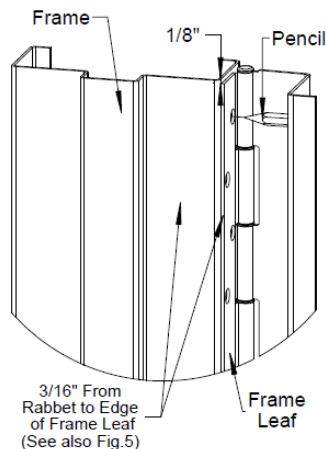

Fig. 1
1. Place the hinge frame leaf on the frame face. Position the top of the hinge 1/8" maximum below the header. Place the hinge firmly against the face of the frame. Position the frame leaf edge 3/16" from rabbet as shown in (Fig. 1 & 5).